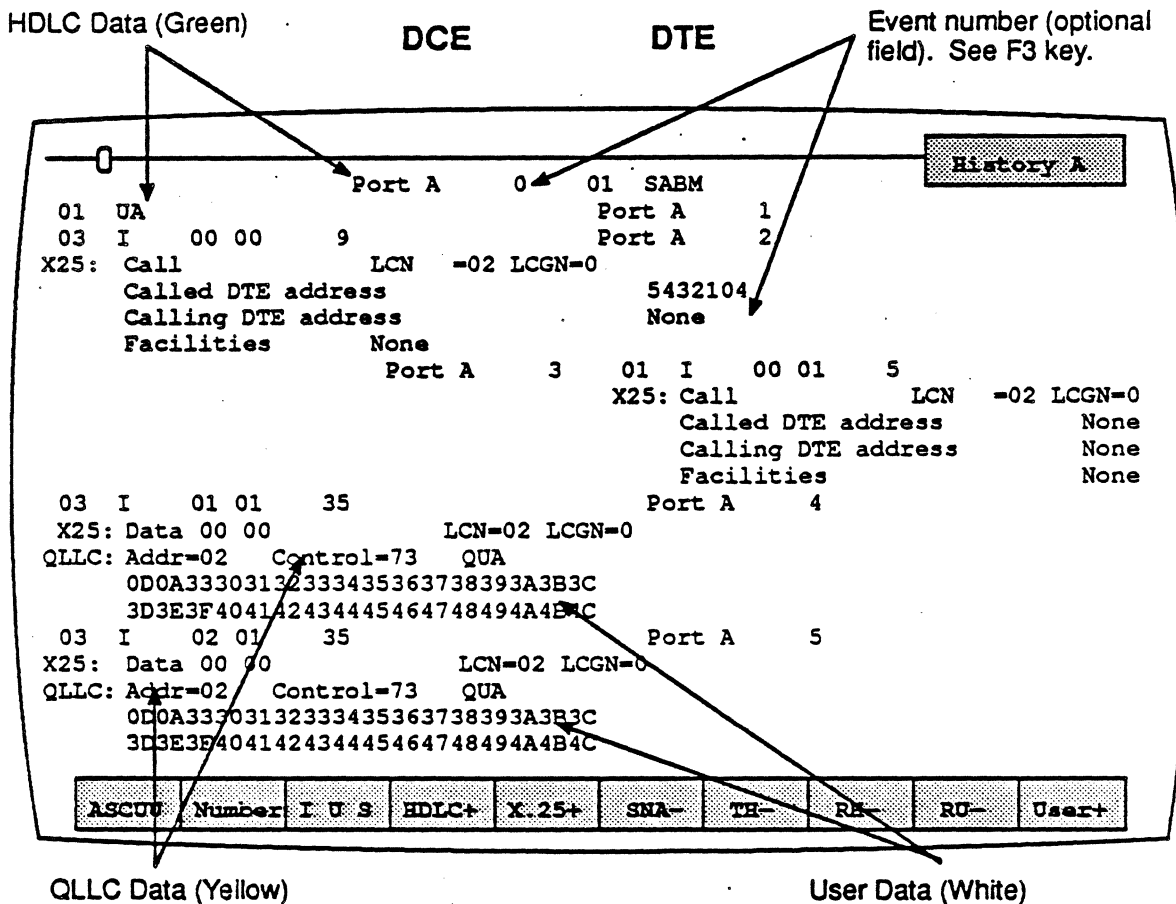

Figure 4.2: Analysis History Page with Sample QLLC Traffic
The display format and function keys are the same for both pages, as shown in Figure 4.2. The page components are described on the following pages.
**F2** determines the acquisition information display format, which is displayed in green or white in the center of the screen, between the DCE and DTE sides (see Figure 4.2). The options are: